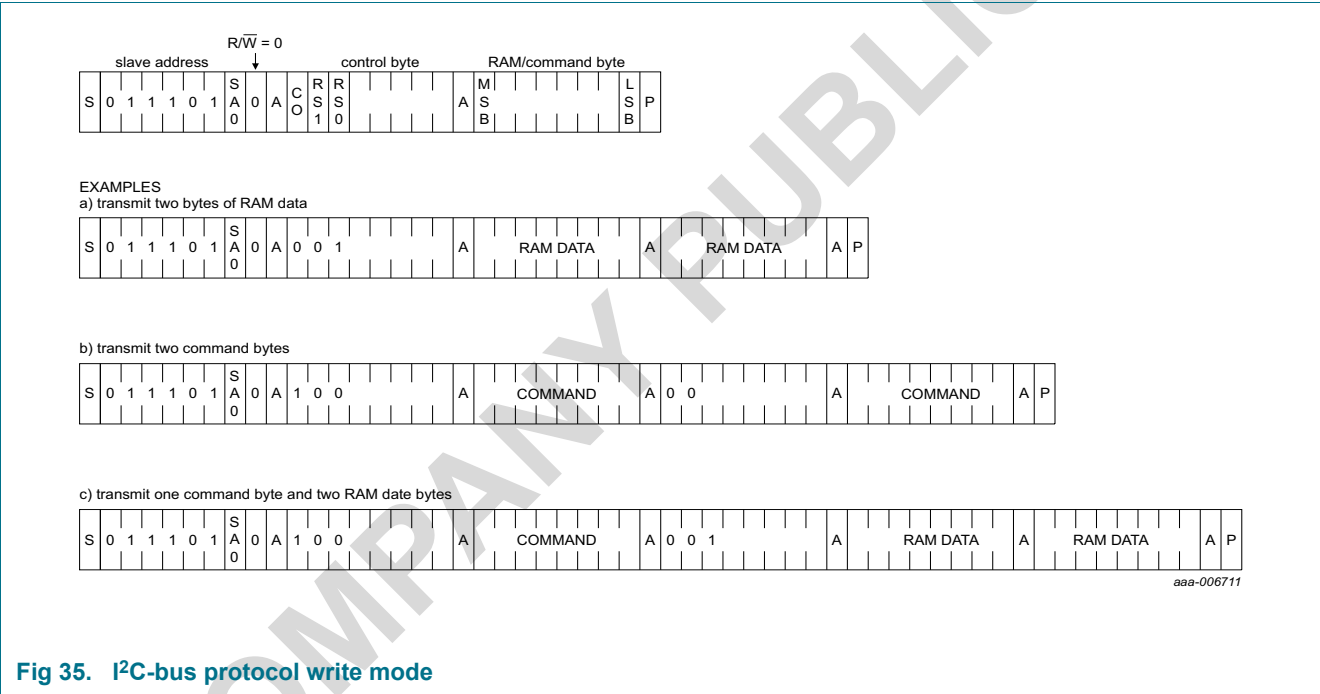

Fig 35. I²C-bus protocol write mode
The I²C-bus protocol is shown in Figure 35. The sequence is initiated with a START condition (S) from the I²C-bus master which is followed by one of the two slave addresses available. All PCA8539 with the corresponding SA0 level acknowledge in parallel to the slave address, but all PCA8539 with the alternative SA0 level ignore the whole I²C-bus transfer.